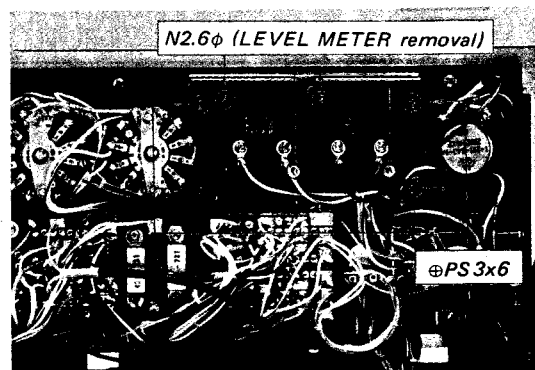

Fig. 2-6. Meter bracket removal
2. Remove the four screws ($\oplus PS 3 \times 6$) securing the meter bracket to the front subchassis as shown in Fig. 2-6. This frees the meter bracket.